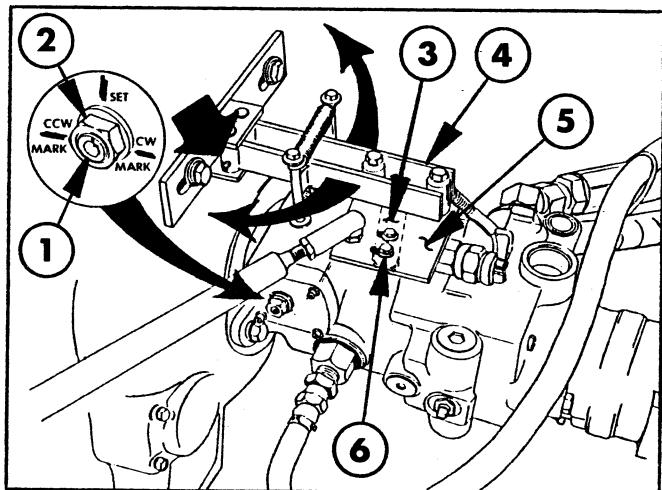

FIG. 11
- FRONT AXLE SPINDLES (2)
- LINKAGE CONTROL ARMS (FIG. 11, PAGE 21)
VEHICLE DRIVE CONTROL FOOT PEDAL LINKAGE MAINTENANCE: It is very important that the foot pedal operate freely and return positively to the NEUTRAL or "CENTERED" position. Periodic maintenance of the foot pedal requires applying grease to the grease fittings on the linkage control arms as shown in FIG. 11.
5. Pull both control arms away from the control plate bearings (SEE FIG. 11). When the control plate is adjusted correctly, the control plate WILL NOT rotate when the control arms are pulled away.
8. To adjust the control plate, loosen the 2 control plate mount bolts, so it allows the control plate to center itself and allows the servo control arm to move independently as shown in FIG. 11.
10. Loosen the jam nut on the servo adjusting screw. (SEE FIG. 11.) Release the brake pedal, start the engine, and turn the servo adjusting screw CCW (Counter Clockwise) until the rear wheels begin to move. Make a chalk mark on the servo housing next to the servo screw mark to show this location. (SEE FIG. 11.) Rotate the servo adjusting screw CW (Clockwise) until the rear wheels begin to rotate in the opposite direction. Make a chalk mark on the servo housing next to the servo screw mark to show this location. Turn the servo adjusting screw to midway between these two marks and retighten the jam nut. After proper adjustment, proceed to STEP 11.